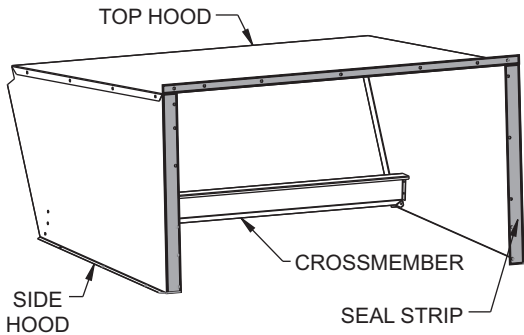

Fig. 30 — Adding Seal Strip to Hood Top and Side Hoods
5. Apply black seal strip (provided) to mounting flanges of hood sides being sure to cover mounting holes. See Fig. 30.
6. Apply black seal strip (provided) to back of hood top mounting flange. Seal strip of hood top mounting flange must press tightly against seal strip of hood side mounting flanges. See Fig. 30.